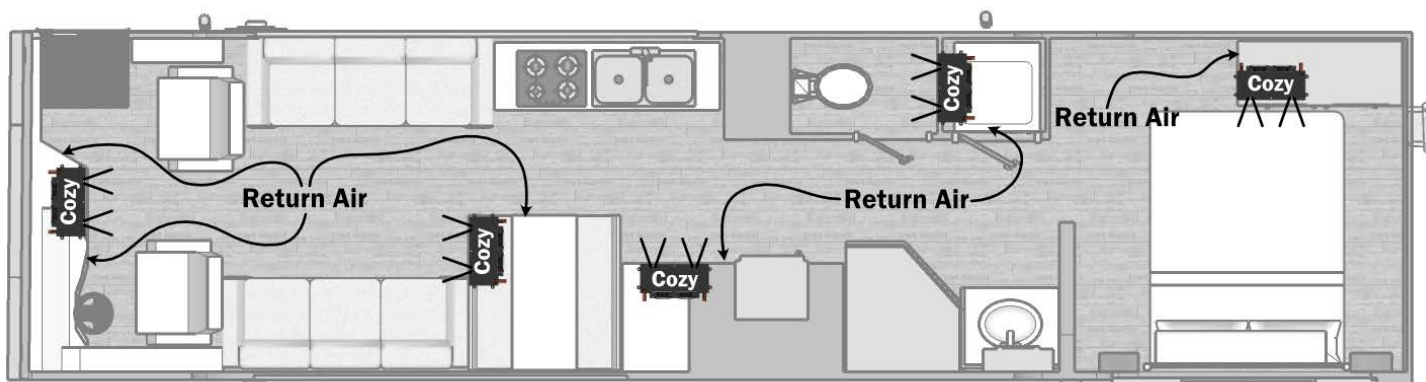

Figure 161
- Must be cold air returns installed for every heat exchanger (reference Figure 161)